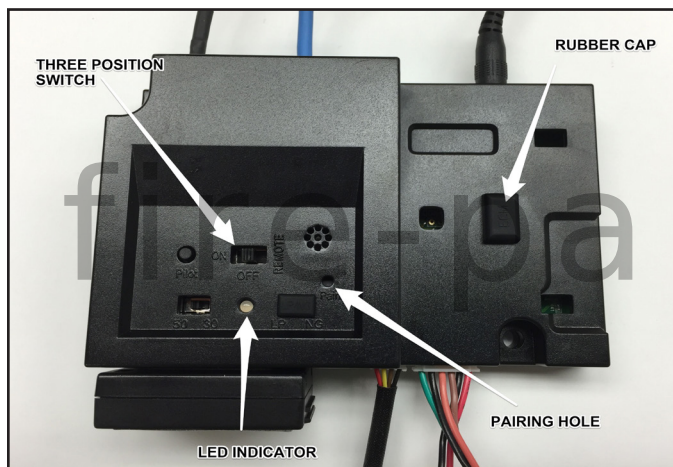

Figure 2. IFT-ECM
4. Remove protective rubber cap from connector on the top of the IFT-ECM. See Figure 2.